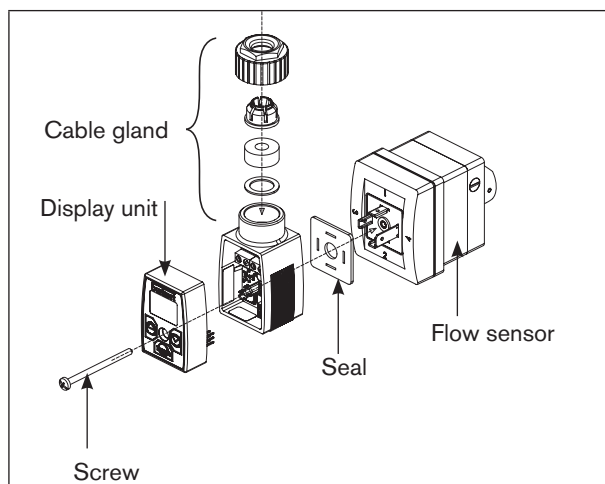

Fig. 10: Installing the device on the sensor (example of a device with cable gland and display unit, mounted on a Type SE30 sensor)
- Correctly position the device (see Fig. 10) and plug it on the 4-pin male connector of the flow sensor.